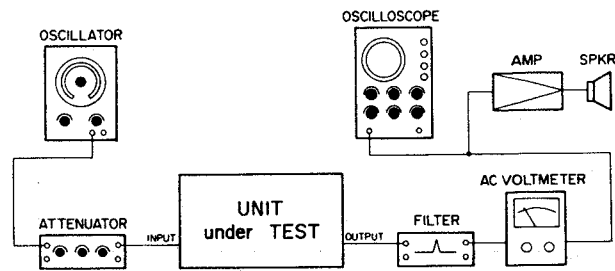

FIG. 29. ERASURE TEST SET-UP
1. Connect test equipment as shown in Fig. 29.